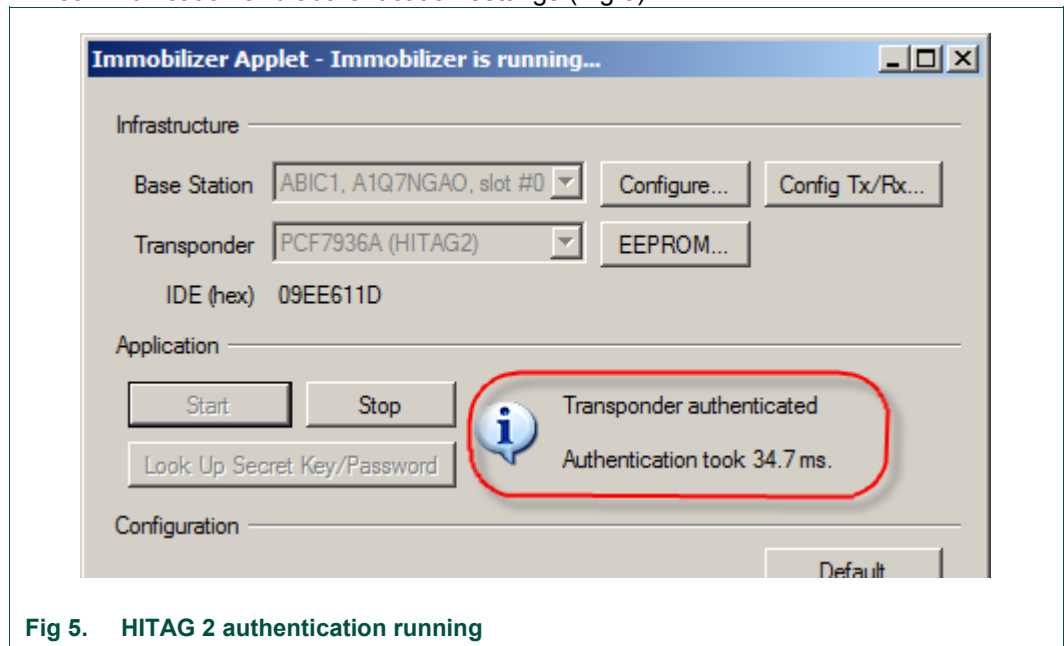

Fig 5. HITAG 2 authentication running
- The immobilizer applet runs and authenticates the transponder with the default communication and authentication settings (Fig 5).